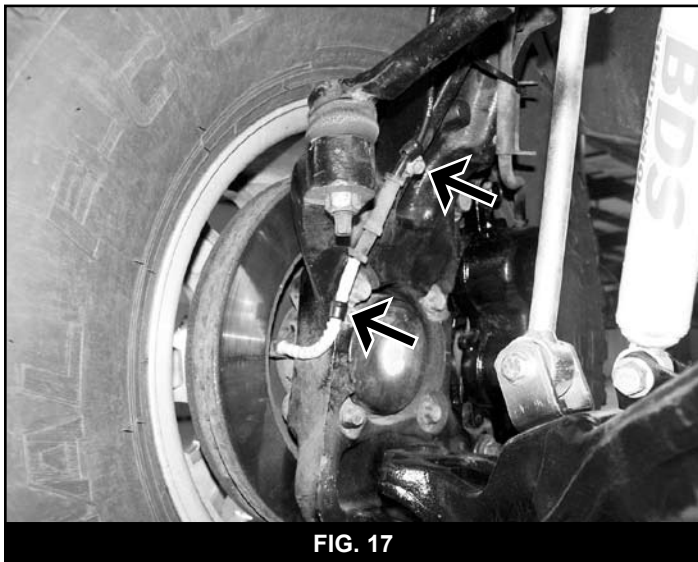

FIG. 17
53. Attach the ABS line to the front side of the knuckle with the provided wire clamps and 1/4" x 3/4" bolts, 1/4" SAE flat washers and 1/4" lock washers from bolt pack #540. Torque to 10 ft-lbs. Attach the ABS wire to the upper control arm with the provided wire ties and reconnect the wire connector at the frame. (Fig 17)